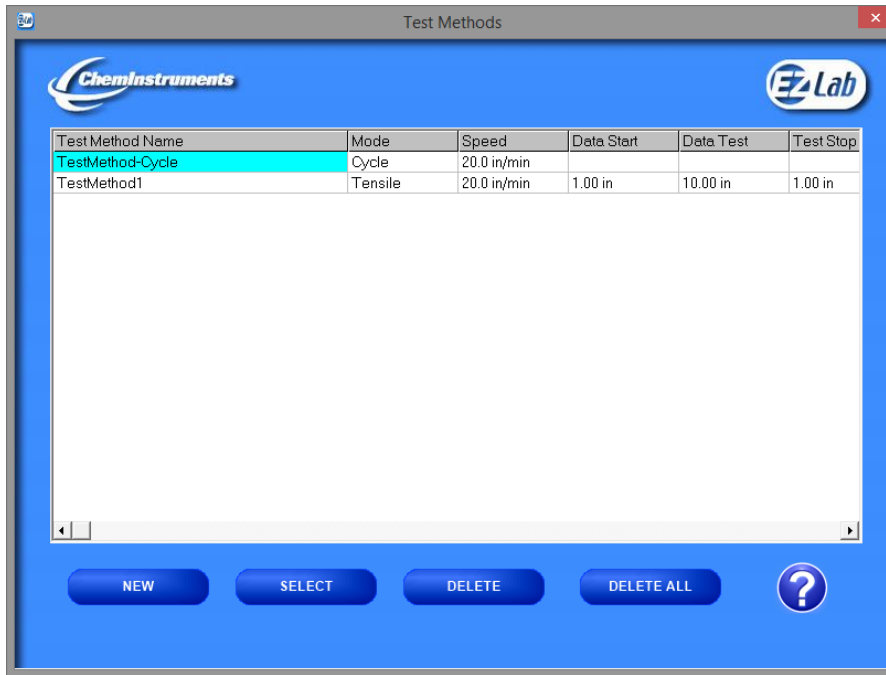

Figure 4 – Test Methods Screen
2. You will now see the Test Methods screen which allows the user to either select an existing test method or create a new test method. (See Figure 4 – Test Methods Screen)